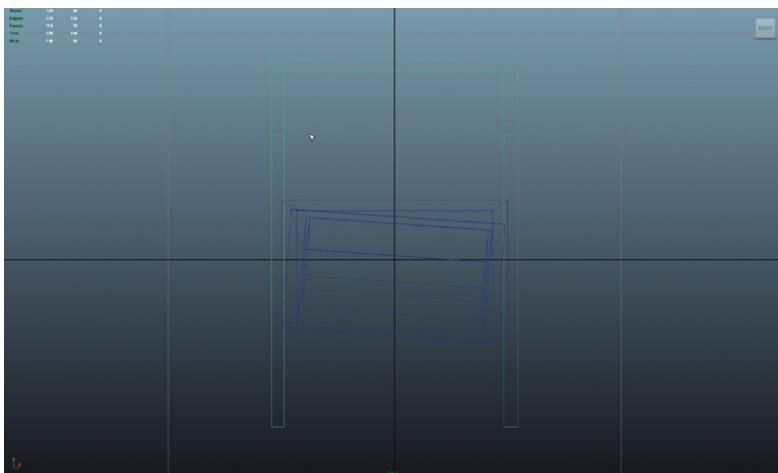

FIG 3.55 Using the Cut Faces Tool to add new geometry.
Step 11: Create new geometry to create further cross braces. First, make sure to view the object in the Front or Side View Panel (either will work). Select the frame shape (in Object Mode). Activate the Cut Faces Tool (Polygons>Edit Mesh > Cut Faces Tool). Hold the Shift key down (to constrain the cut) and drag from left to right on the screen to approximate the cut shown in Fig. 3.55. Repeat for a second cut.